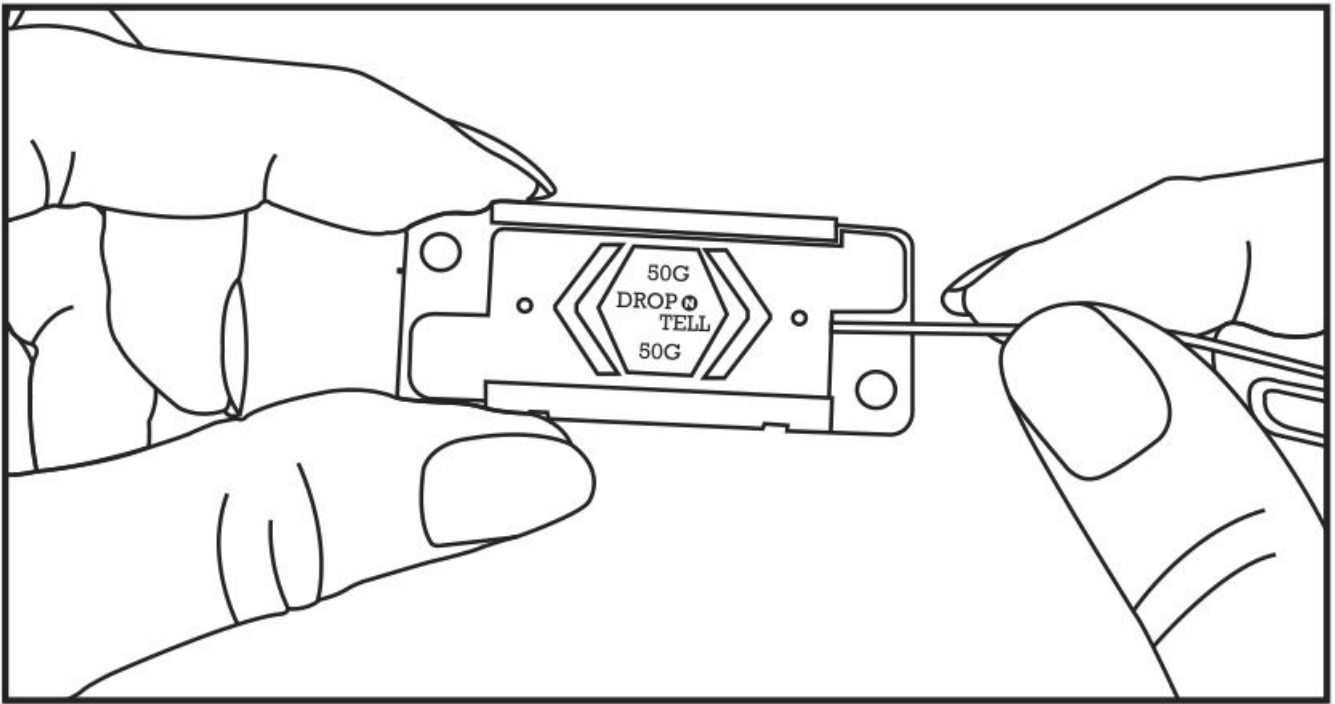

Figure 2
1. Push the end of a paper clip into the small hole on the side of the indicator until the arrow snaps back. (See Figure 2)